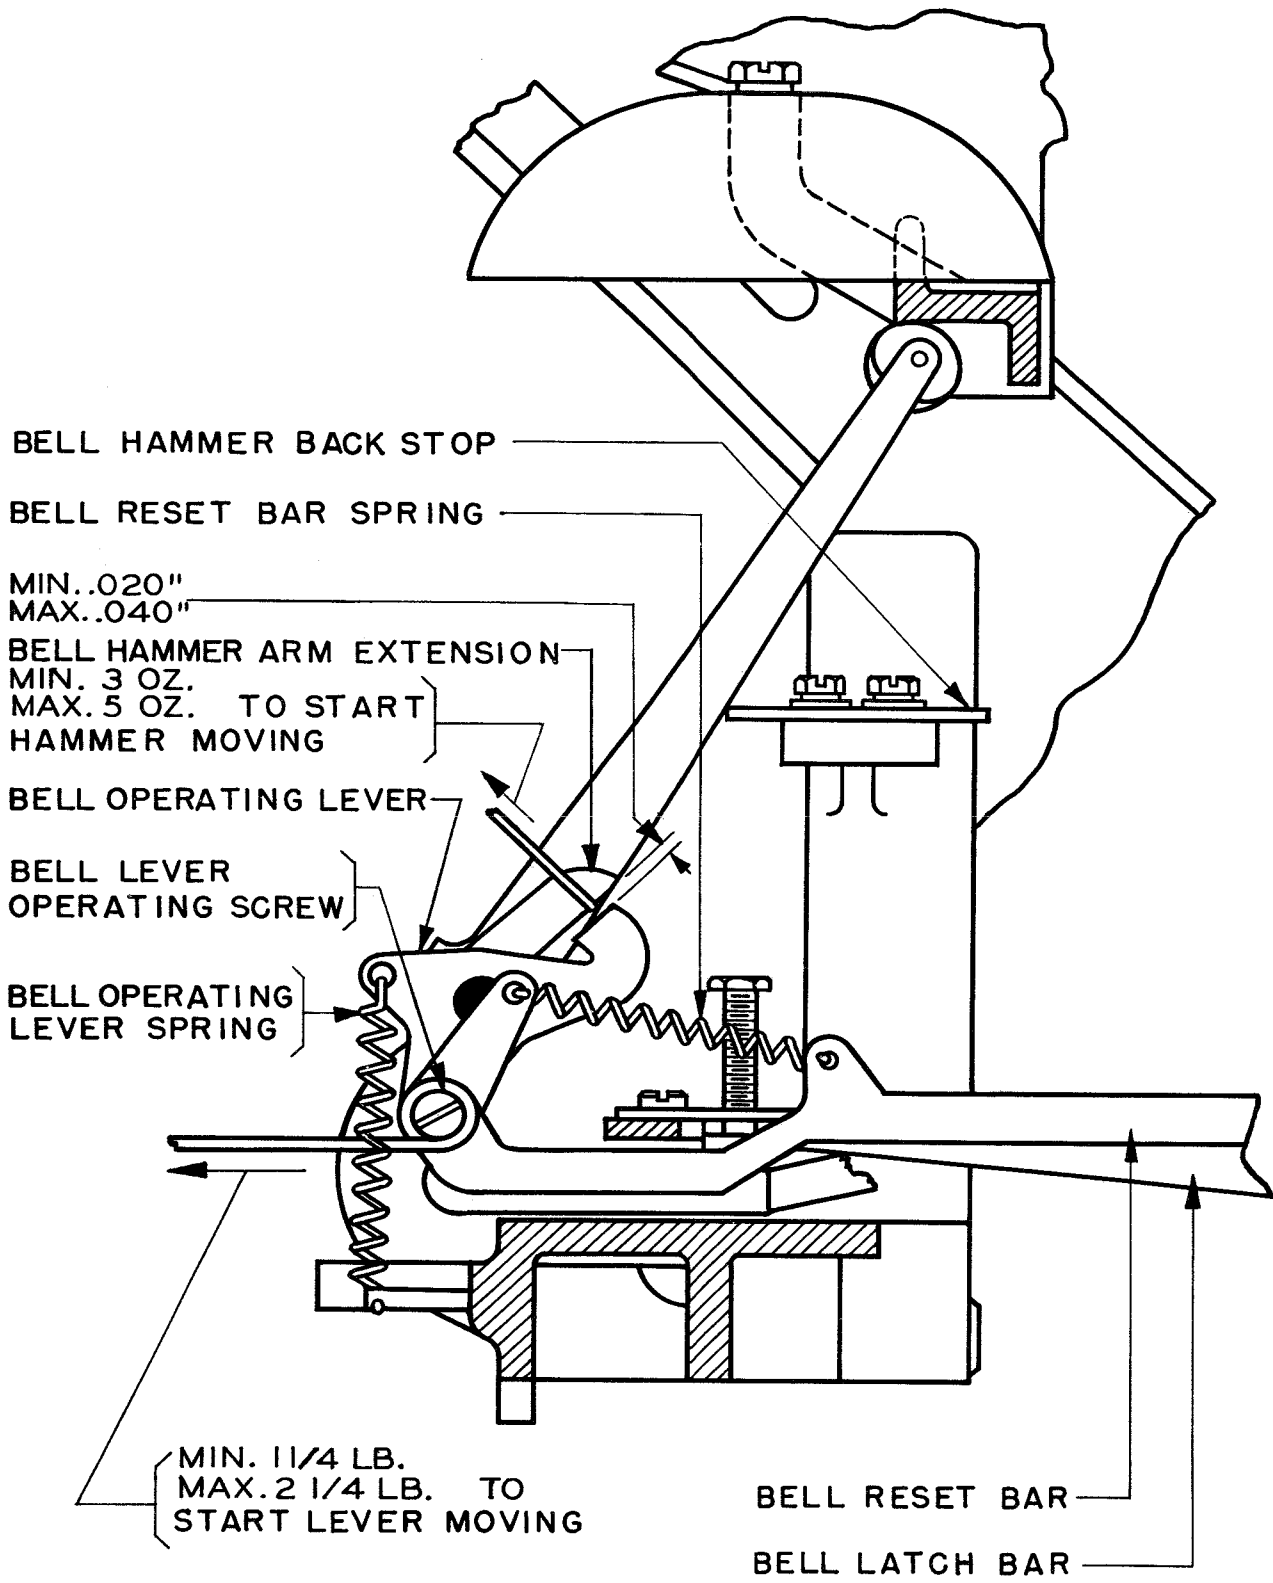

Figure 42
minimum 3 ounces, maximum 5 ounces when bell latchbar is in its latched position. See Figure 42.
2.95 Signal-bell-hammer-arm Extension should clear the bell-operating lever by minimum 0.020 inch, maximum 0.040 inch when the bell latchbar is in its latched position. See Figure 42.
To Adjust: Reposition the bell-hammer backstop; see Figure 42 for the standard backstop.
2.96 Signal-bell Operating-lever Spring should have a tension of minimum 1-1/4 pounds, maximum 2-1/4 pounds when the bell-reset-bar spring is removed and the rear shoulder of the bell latchbar is resting against the bell-latchbar latch. See Figure 42.